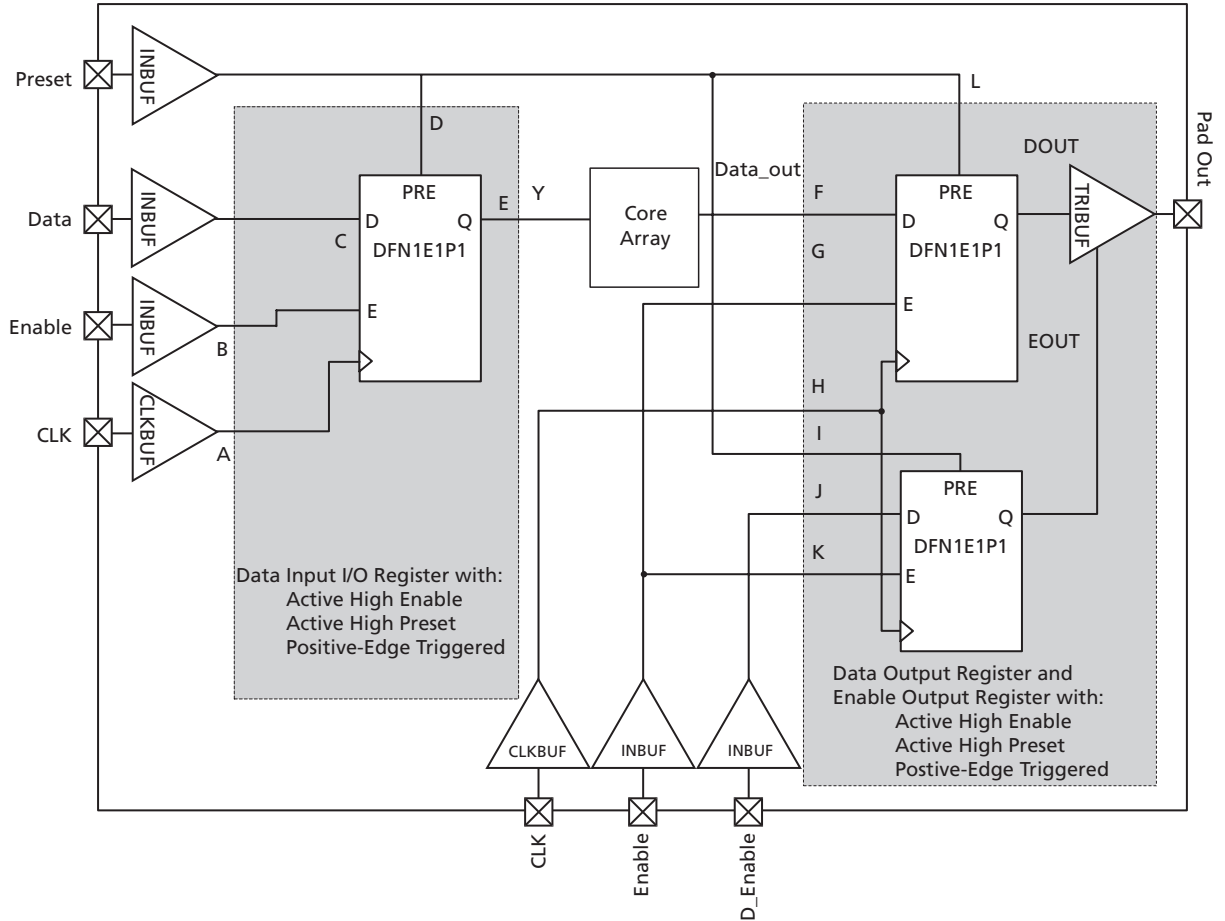

Figure 2-24 • Timing Model of Registered I/O Buffers with Synchronous Enable and Asynchronous Preset
* See Figure 2-24 on page 2-50 for more information.